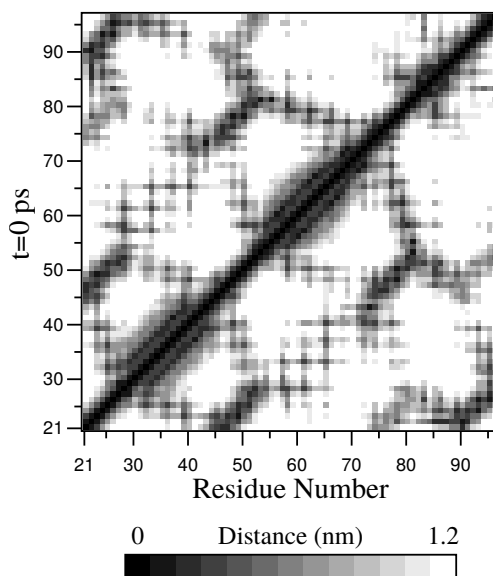

Fig. 5.56: A minimum distance matrix for a peptide *168* (page 518).
- To monitor the *minimum distances between amino acid residues* within a (protein) molecule, you can use the program *gmx mdmat* (page 111). This minimum distance between two residues  $A_i$  and  $A_j$  is defined as the smallest distance between any pair of atoms ( $i \in A_i, j \in A_j$ ). The output is a symmetrical matrix of smallest distances between all residues. To visualize this matrix, you can use a program such as *xv*. If you want to view the axes and legend or if you want to print the matrix, you can convert it with *xpm2ps* (page 181) into a Postscript Fig. 5.56.